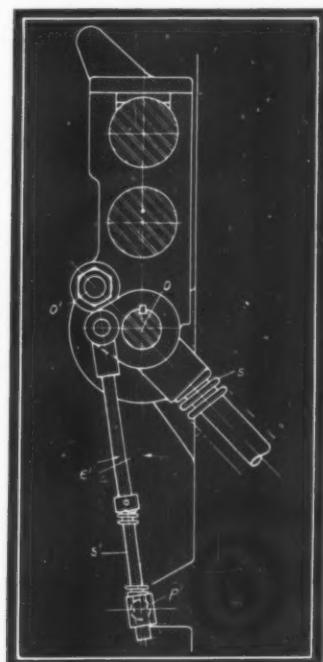

Fig. 6—Short springs under compression are used as secondary springs. Snap action can readily be attained if desired
Had it been required to eliminate the residual moment in the example under partial balancing, two secondary springs  $S'$ , as shown in *Fig. 6*, would have been introduced for the purpose. If the radius of the cranks upon which these springs would act were 2 inches, the rate for each spring would have been, by Equation (7),
A spring made of nine active turns of  $\frac{1}{8}$ -inch round steel wire with a mean coil diameter of 1 inch has this rate, and two of these would have been sufficient to complete the balancing. In order to keep  $\epsilon'$  small using these short springs (see Fig. 6), a long rod connecting  $Q'$  and  $P'$  could be used. The snap action could now be attained by giving the secondary spring  $S'$  a small initial force, instead of offsetting the line of action of the primary spring  $S$  with respect to  $O$  when  $\phi=0$ , as was done in the case of partial balancing.